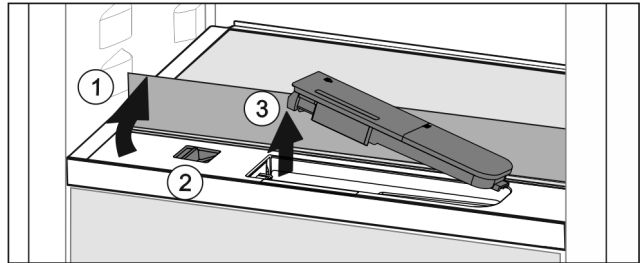

Fig. 112
- ▶ Lift the glass panel and fold towards the rear until it clicks into place Fig. 112 (1).
- ▶ Slide the slider Fig. 112 (2) to the left.
- ▶ Remove the water tank Fig. 112 (3).